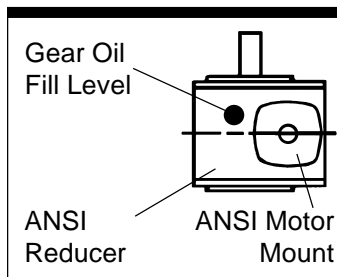

Figure 4-1.
▶ Check the level of gear oil before draining (see Figure 4-1). If the level is low, check the reducer's input and output shaft seals for leaks.